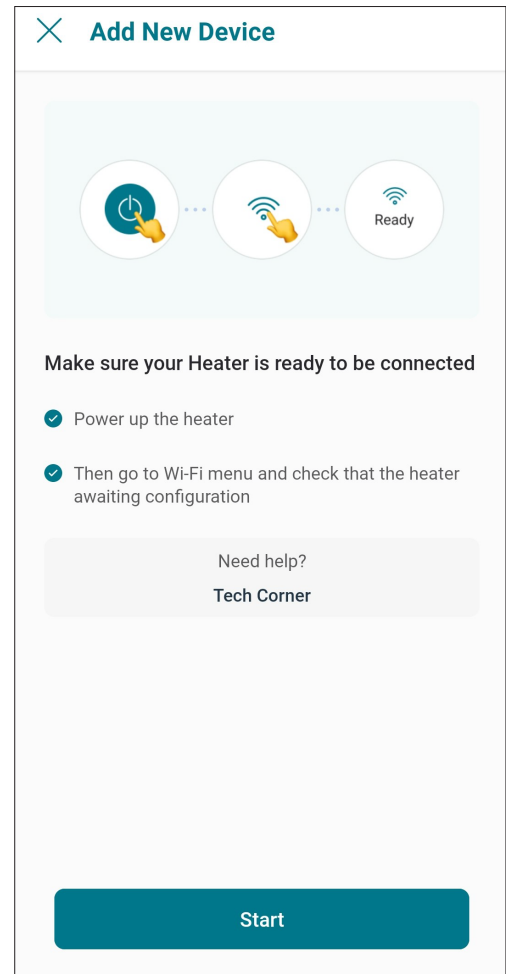

Figure 82. Check your Device
- "Check your Device" screen will appear. Ensure to have AVIA heater powered and Wi-Fi signal available in the area, then press "Start" button. See Figure 82.